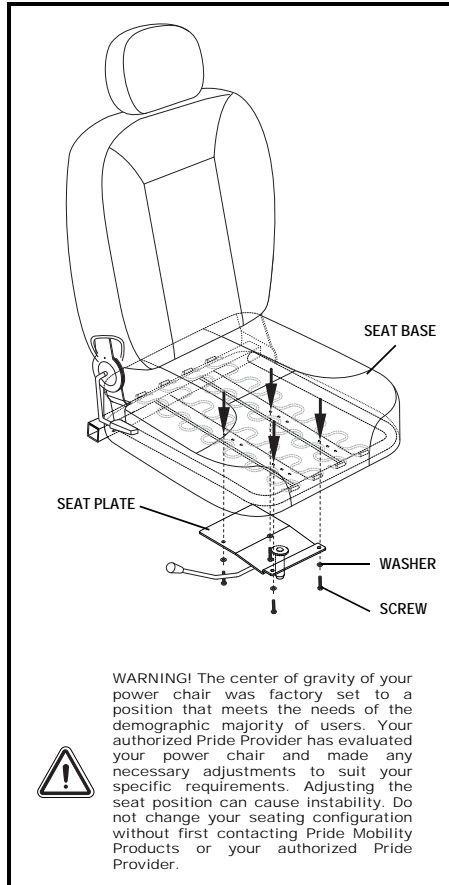

Figure 13. Seat Position Adjustment
5. Remove the screws and washers from the bottom of the seat plate. **See figure 13.**